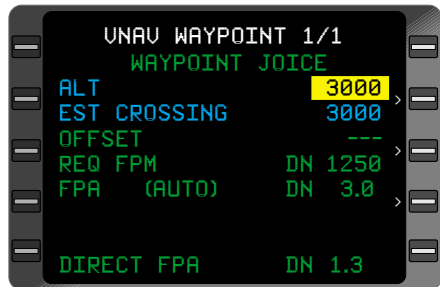

Figure 3-125
- VNAV** Key - DEPRESS. The **VNAV WAYPOINT** Page appears with the cursor over the **ALT** field. (Figure 3-125)